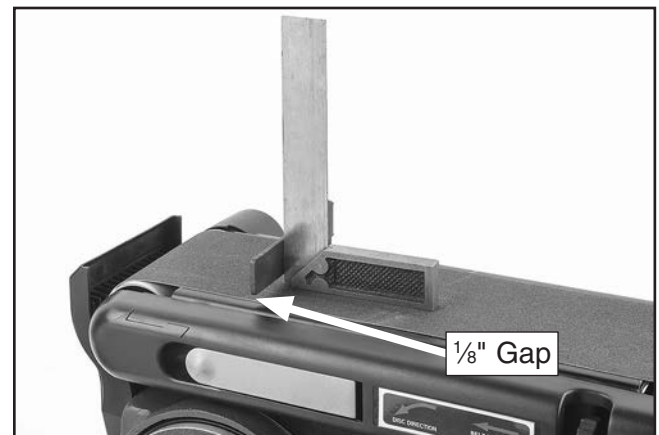

Figure 11. Squaring backstop.
8. Use a square to position backstop perpendicular to sanding belt, with a gap of approximately $\frac{1}{8}$ " between backstop and belt, then tighten cap screws from **Step 1** (see **Figure 11**).